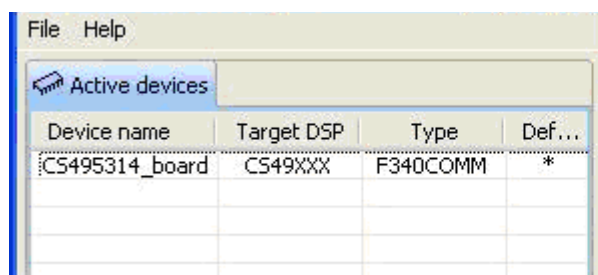

Figure 3-3. Cirrus Device Manager as Displayed after Double-clicking the CDM Icon
7. Double click on the icon to open up CDM and verify that the board listed is correct. An example with DC49531 is shown in Figure 3-3.